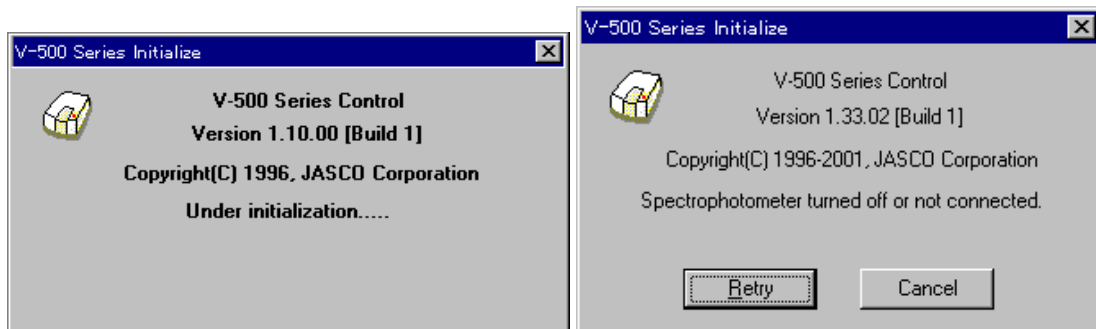
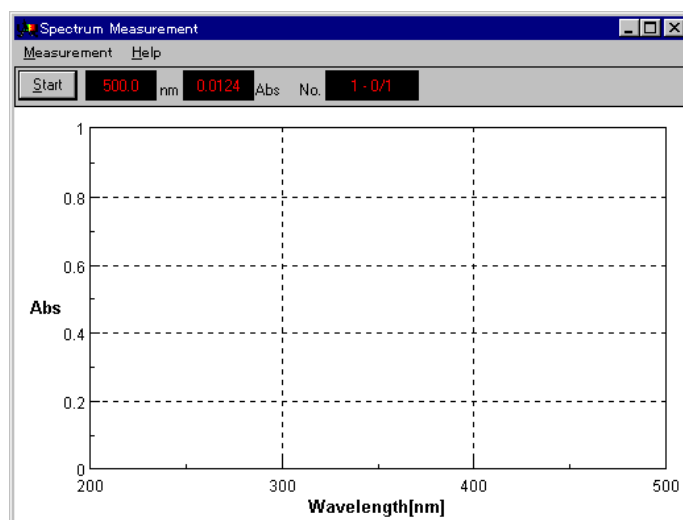

Figure 2.4 Message boxes during startup
Figure 2.5 [Spectrum Measurement] display
- (3) Double-click a program on the menu. The selected program starts and the program window appears. The spectrophotometer also starts automatically, but needs about two minutes to warm up. Messages appear throughout the procedure. For example, when the [Spectrum Measurement] program is started, the [Spectrum Measurement] display shown in Fig. 2.5 appears after the display shown in Fig. 2.4 appears.
*Note: Check the following if the message on the right in Fig. 2.4 appears.*